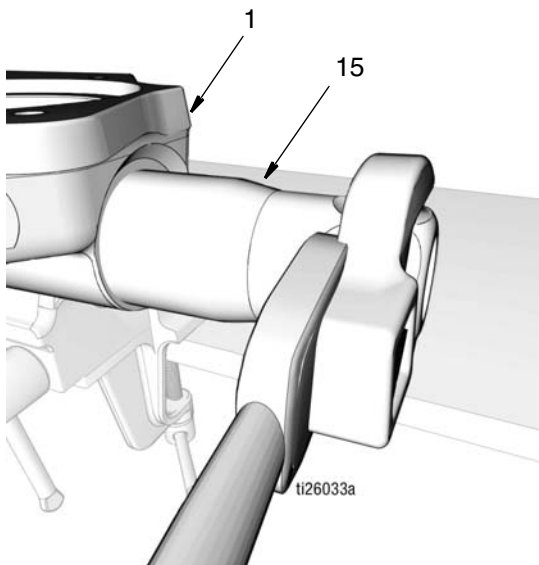

FIG. 47
- c. Thread the outlet check valve (15) into the pump base (1) (FIG. 47). Tighten securely. Then torque to 50 to 55 ft. lbs (67.8 to 74.5 N•m).